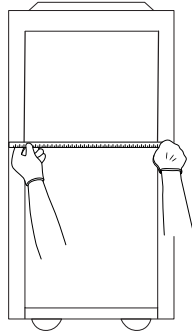
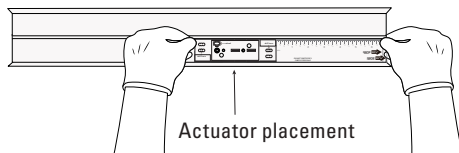

Figure 2
Figure 3
A. Measure the Over All Panel Width (OAPW) including the frame, (See **Figure 2**). Record your measurement below for future reference, and check **Table 1**. If your OAPW measurement matches any of the sizes in the table, use the provided template to mark where the actuator will need to be installed inside the Top Channel (make sure to fold or cut on your OAPW measured size and align it to the edge of the Top Channel), see **Figure 3**. Then, skip to **Step 3D**. If your OAPW is not reflected in **Table 1**, proceed to **Step 3B**.
With a pencil, mark this distance inside the Top Channel on the left and right sides (See **Figure 3**).
G. Install actuators and spacers required as determined in **Step 3F** using #6 x 2 5/16" screws provided. (See **Figure 3**).